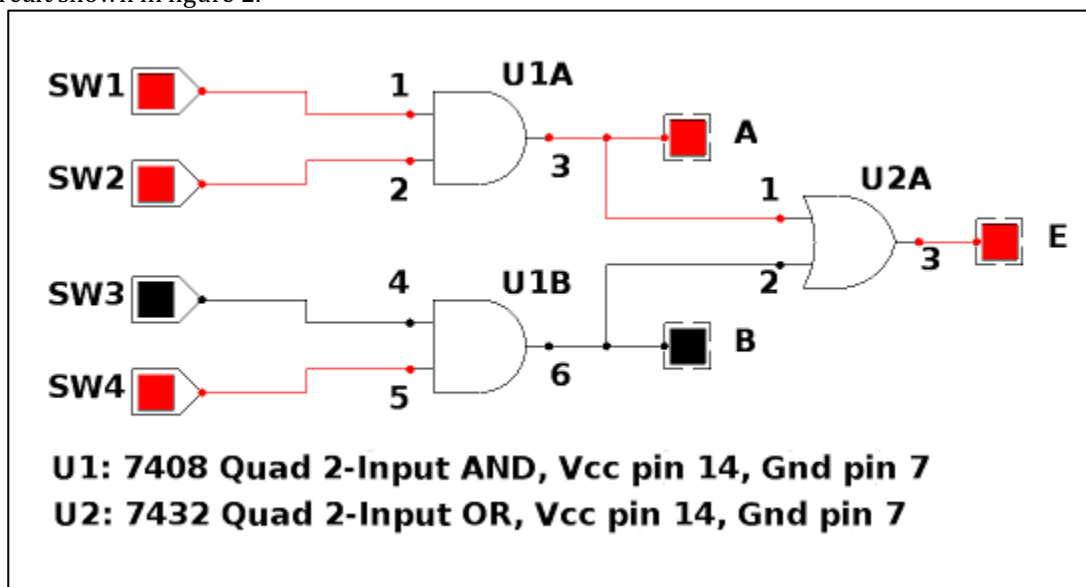
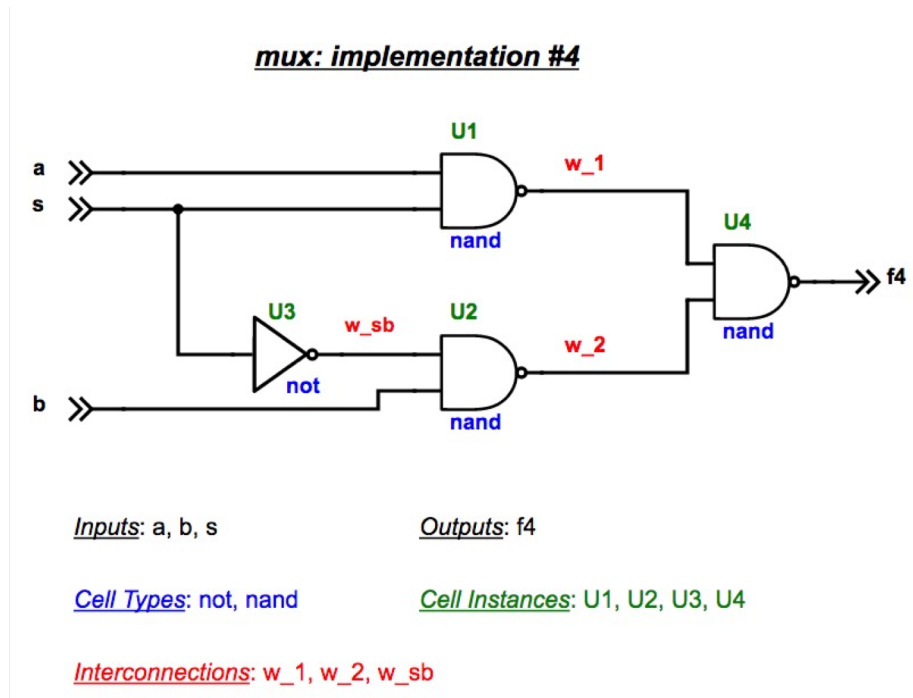

Figure 1. SOP circuit to implement
Figure 2. example of mux gate level structural implementation
- Modify sop.v to model the circuit $E = SW1.SW2 + SW3.SW4$ provided in figure 1. The simplest approach is to model the circuit using a structural gate level coding style, that is a coding style similar to the one used in the muxgate.v example provided. The code provided corresponds to the circuit shown in figure 2.